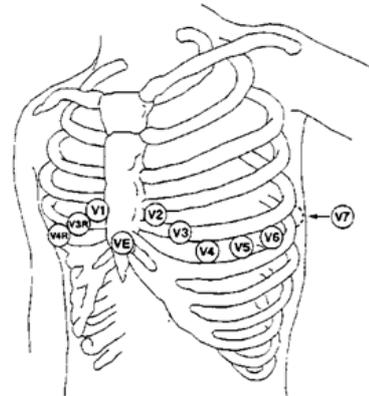

Fig 11-3 Positions for Placing Chest Lead Electrode of the 5 Leads
For 5-lead configuration, place the chest (V) lead electrode at one of the following positions (Fig. 11-3):